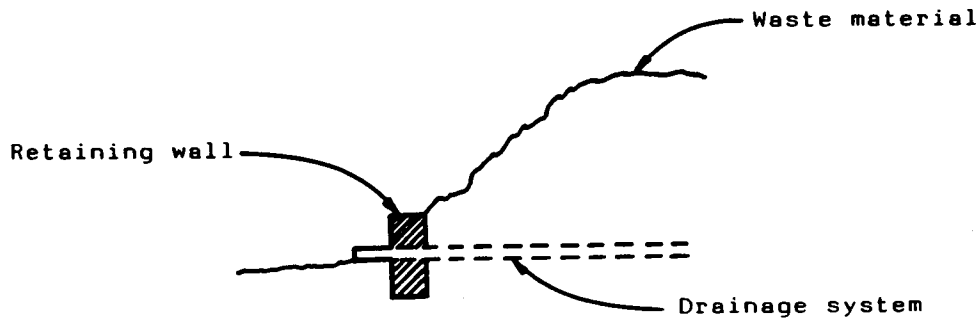

FIGURE 3-1
3. Construct the dump in successive lifts, starting at the toe. A single lift should not exceed fifty (50) feet in height.
5. Artificial supports, such as retaining walls, could be used when building waste or spent ore dumps. Retaining walls installed in conjunction with a drainage system (as shown in Figure 3-1) may be used to help support the toe of the dump while draining excess water from within the dump, which helps relieve pore pressure. Bracing piling and wire mesh can also be used to help control rock spall (rock breaking off in layers parallel to the surface).